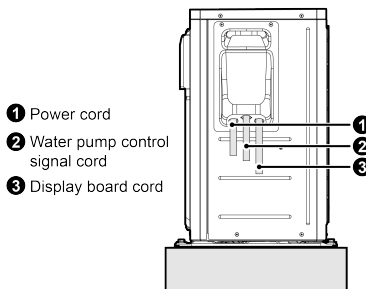

Fig.3.6-2 Installation diagram for power cord out from the outlet hole
- (1) When the wires are connected, power cord, water pump control wire and the cable of display board come out from the wire outlet as shown in figure 3.6-2.
- (2) When wiring outside the unit, the display board (wire controller) cord should be separated from the power cord and the water pump power cord. The minimum distance between parallel wires should be greater than 20cm; otherwise, the unit communication may be abnormal. Strong and weak cords should be sheathed separately.